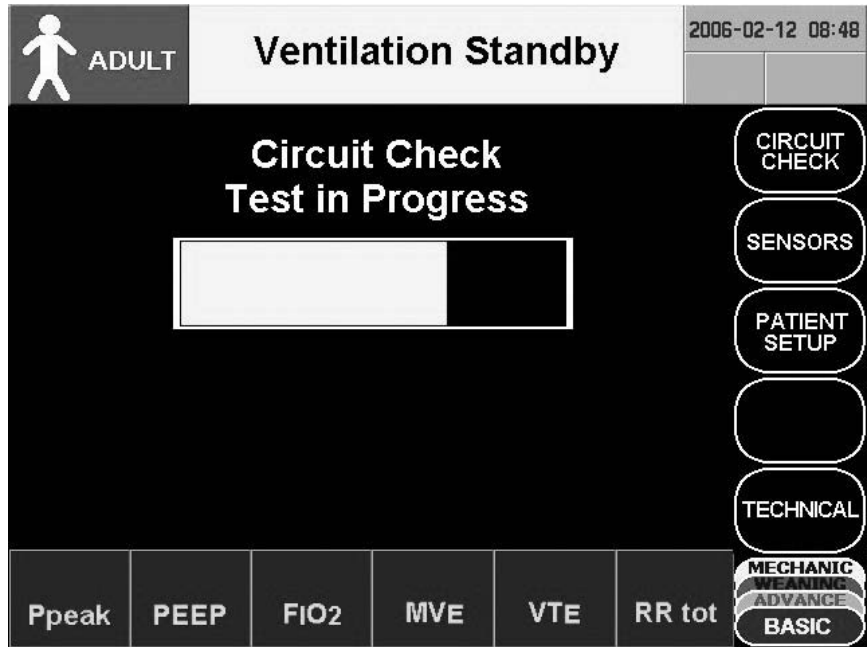

Figure 2-16 Circuit Check Screen
- 7 Press “**Circuit Check**” button on LCD touch screen, and “**Circuit Check Test in Progress**” message appears on LCD touch screen as shown in Figure 2-16.